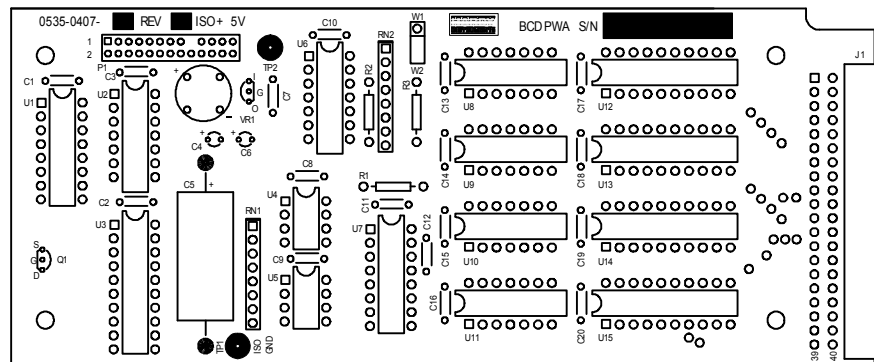

FIG. 3-13 PARALLEL BCD BOARD
- The BCD option board. (See Fig. 3-13) is installed in option slot 2 only and will provide parallel output of the sensed gross, net, or tare weight.